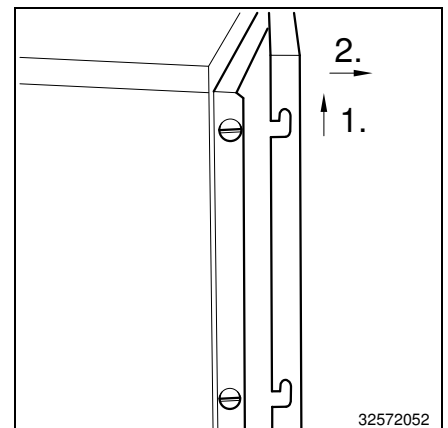

Fig. 23
**5.** Remove the front covers from panels 1 and 2 (Fig. 23) in order to gain access to the bottom panel installation point and to the fittings of the cable connection compartment.